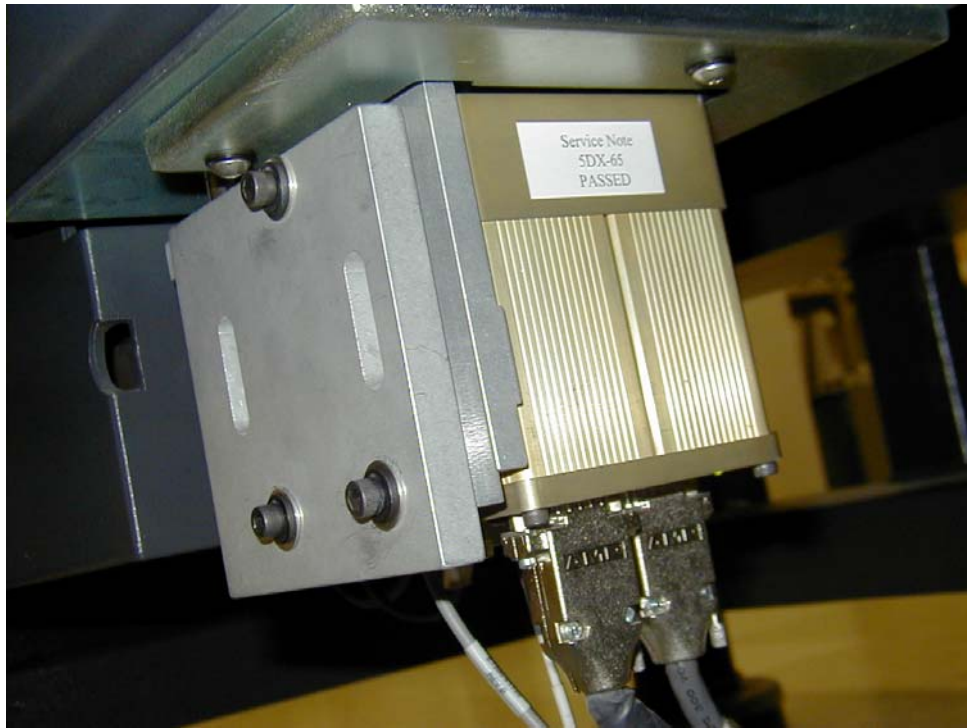

Figure 1
1. If a camera verification label is installed, see Figure 1, then camera has already been verified.